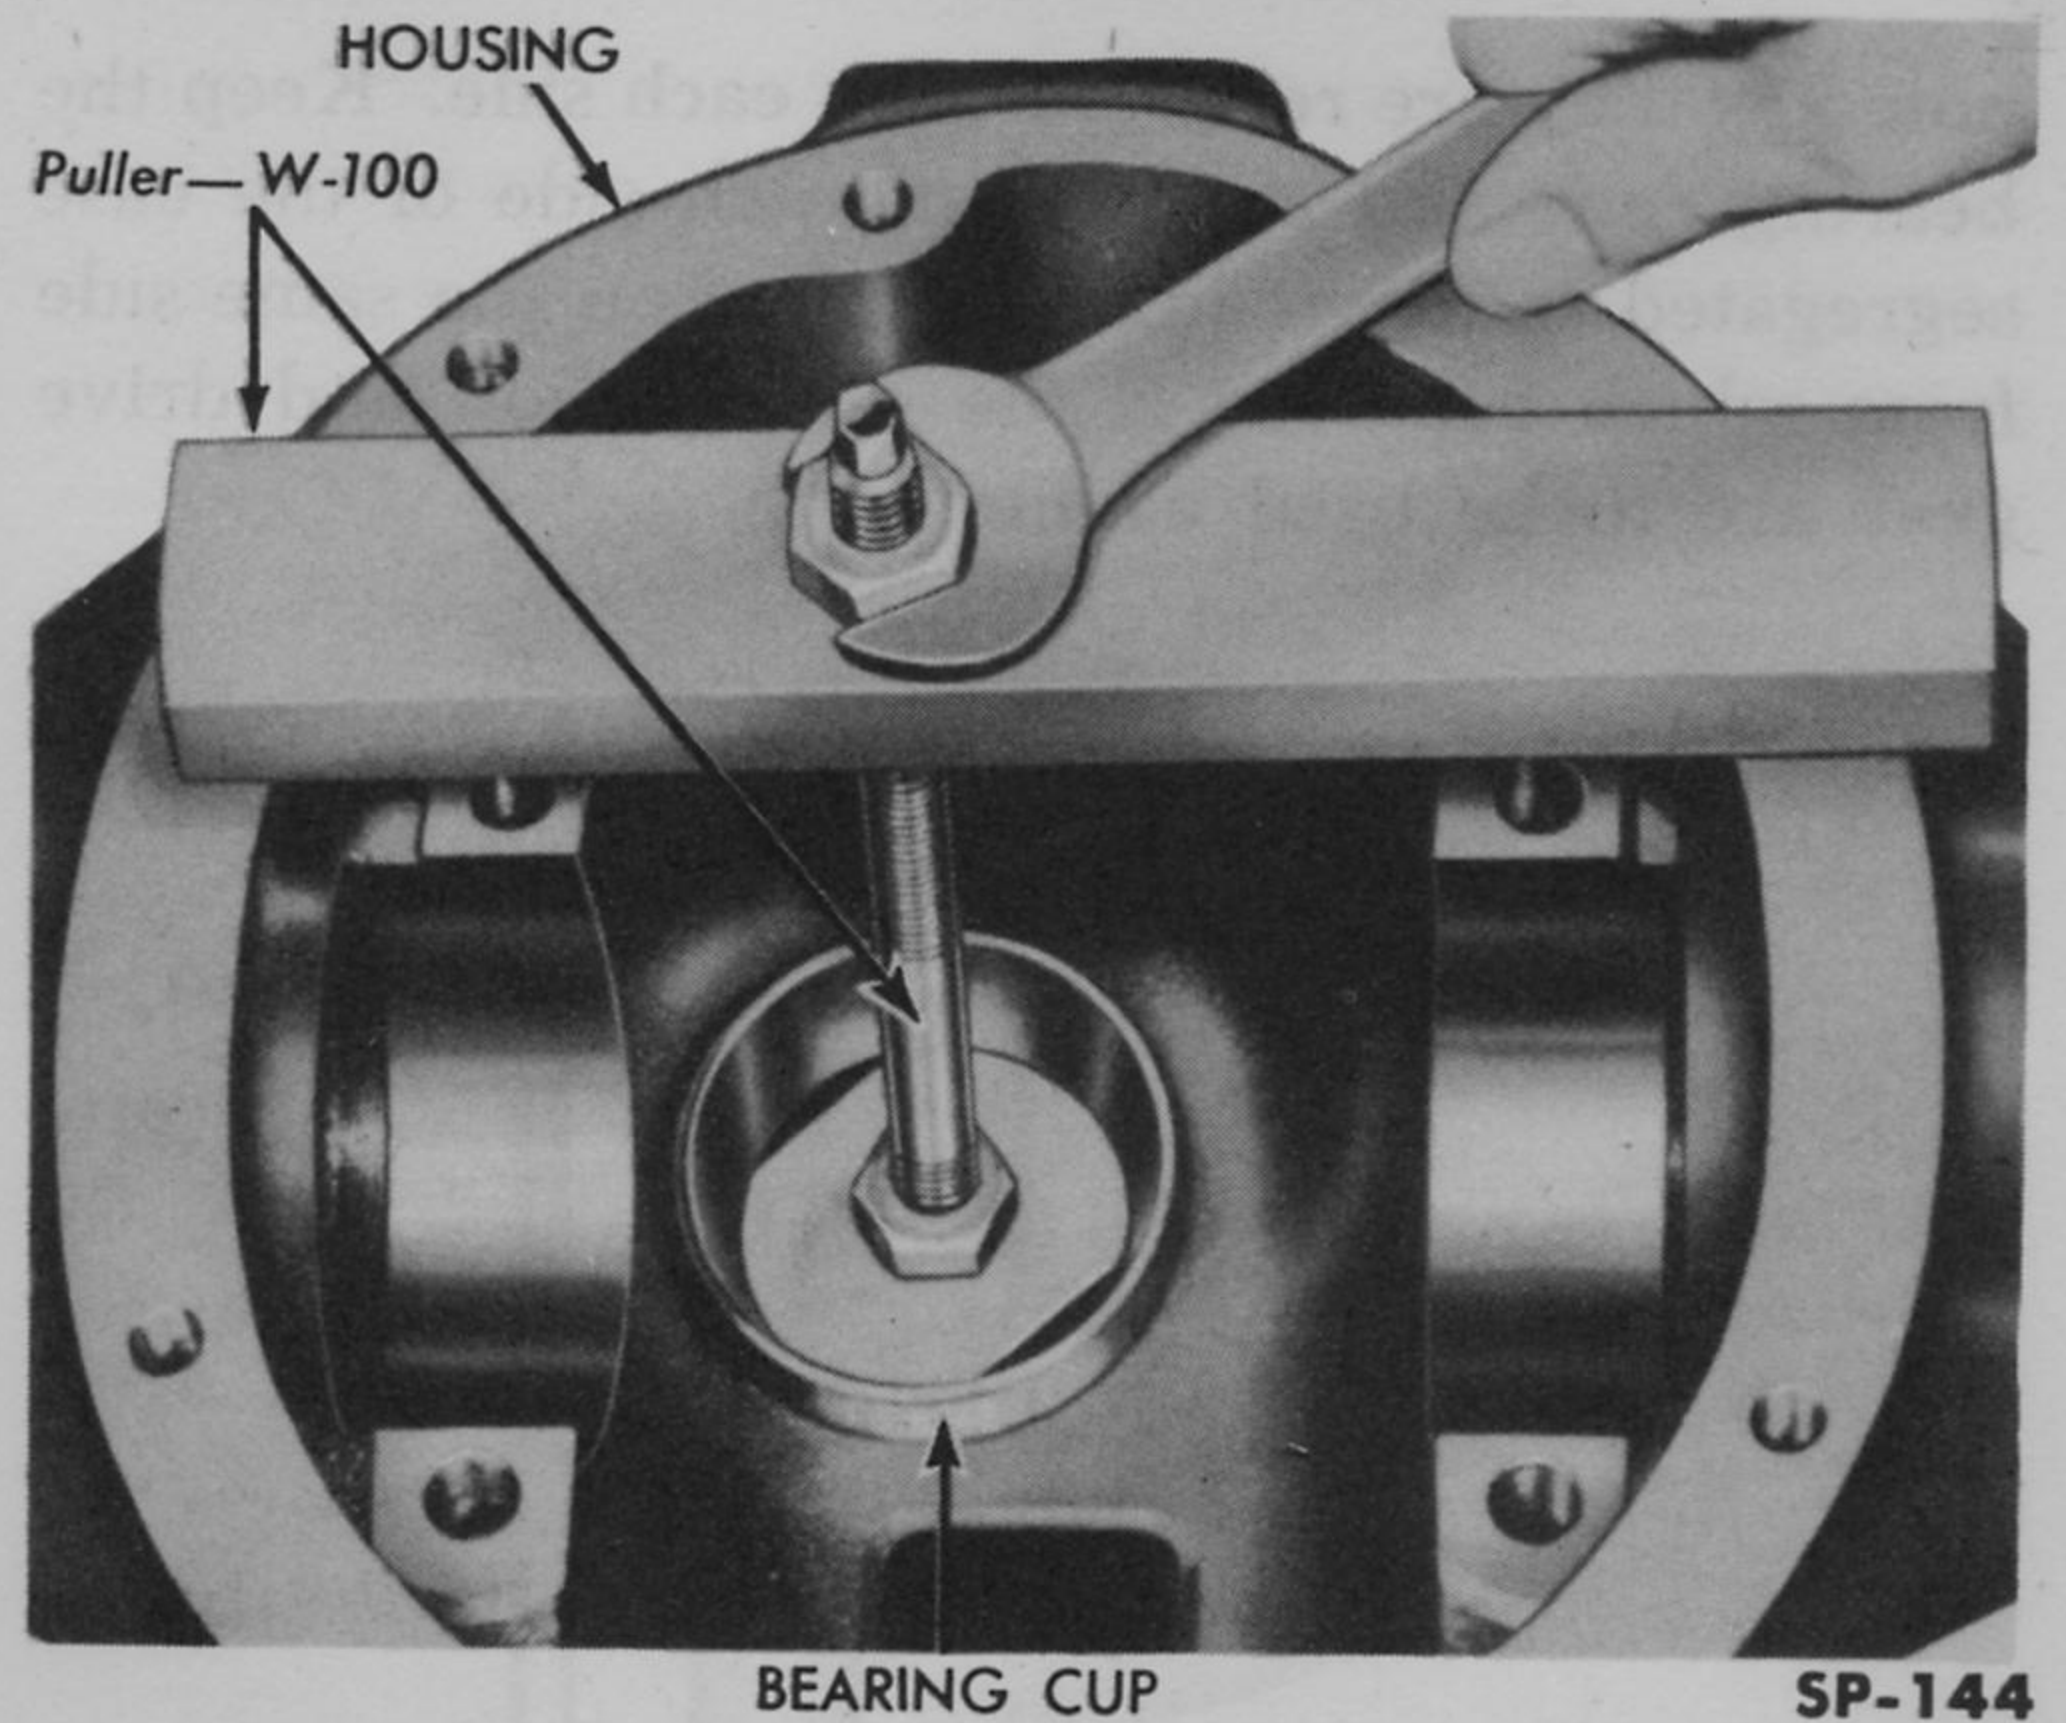

Fig. 264—Removing Pinion Rear Bearing Cup
5. Remove the pinion rear bearing cup and shims from the axle housing, if necessary, using Puller W-100 which is part of Gauge Set W-99 (Fig. 264). All of the adjusting shims should be carefully removed from the bearing cup seat. The shim pack should be measured for thickness and carefully set aside in preparation for reassembly.